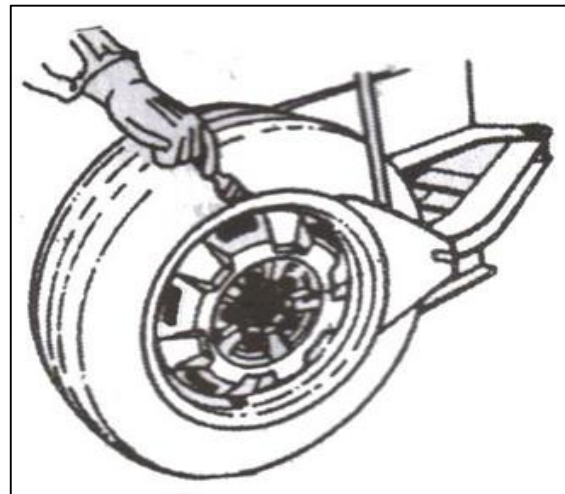

Fig. 18
4.1.2 Place the tire between the bead breaking blade and rubber contact pad (Fig. 18). Then step down on the Bead Breaker Pedal (Figs. 2-10 or 3-10) to detach the rim from the tire. Repeat the same operation on the other sections of the tire to fully detach from the rim. Place the wheel with the tire detached from the rim on the turntable and step on the Clamp Pedal (Figs. 2-9 or 3-9) to clamp the rim. **Note:** You can select either the outer clamping or inner clamping to properly clamp the wheel according to different rim types.